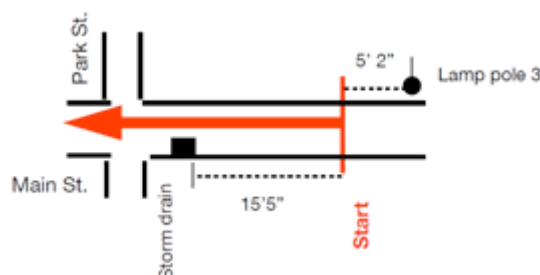

Figure I-1. Race course start defined by the distance to two permanent landmarks.
19. Whenever possible, the start, finish, and turnarounds should be defined by at least two permanent mark locations. In the example in Figure I-1 below, the red arrow shows the runners path. A single location may be used if the mark is at an exact distinct permanent location. (E.g. monument, building foundation.)